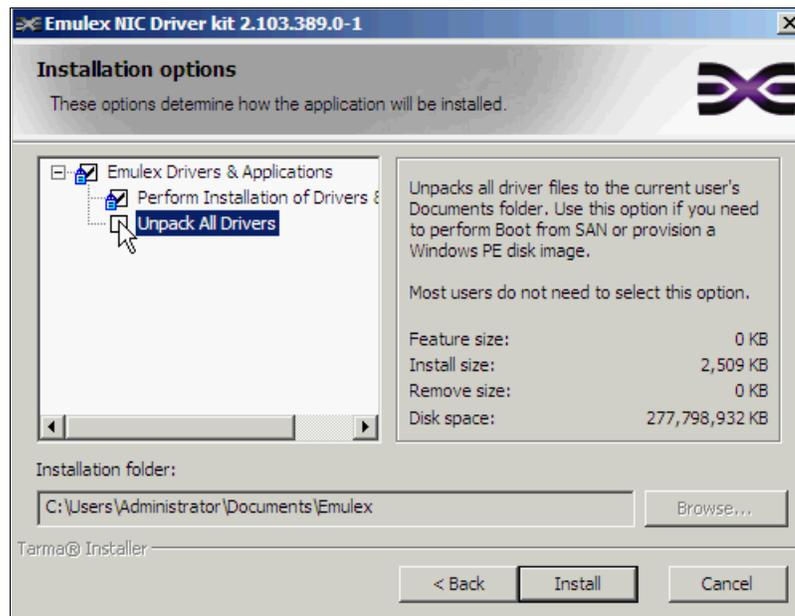

Figure 10-96 Installation options window
3. If you are planning to use boot from SAN or to create a Windows PE disk image, select **Unpack All Drivers** (Figure 10-96). For our example, we did not select **Unpack All Drivers**. Then click **Install**.